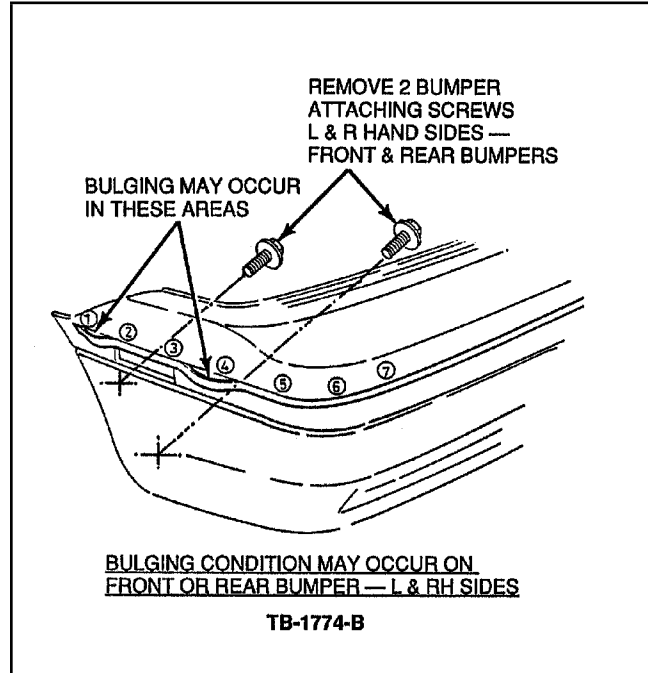

Figure 1 - Article 90-22-4
The bumper insert moulding may bulge at the outer ends of the bumper. This usually occurs between the end of the insert moulding and the #1 retaining tab or between the #1 retaining tab and other retaining tabs, Figure 1.
1. Remove the two (2) bumper side retaining screws from within the fender opening (either one or both sides as applicable), Figure 1. This will enable the bumper wings to be pulled away from the vehicle and allow access to the end of the insert moulding.